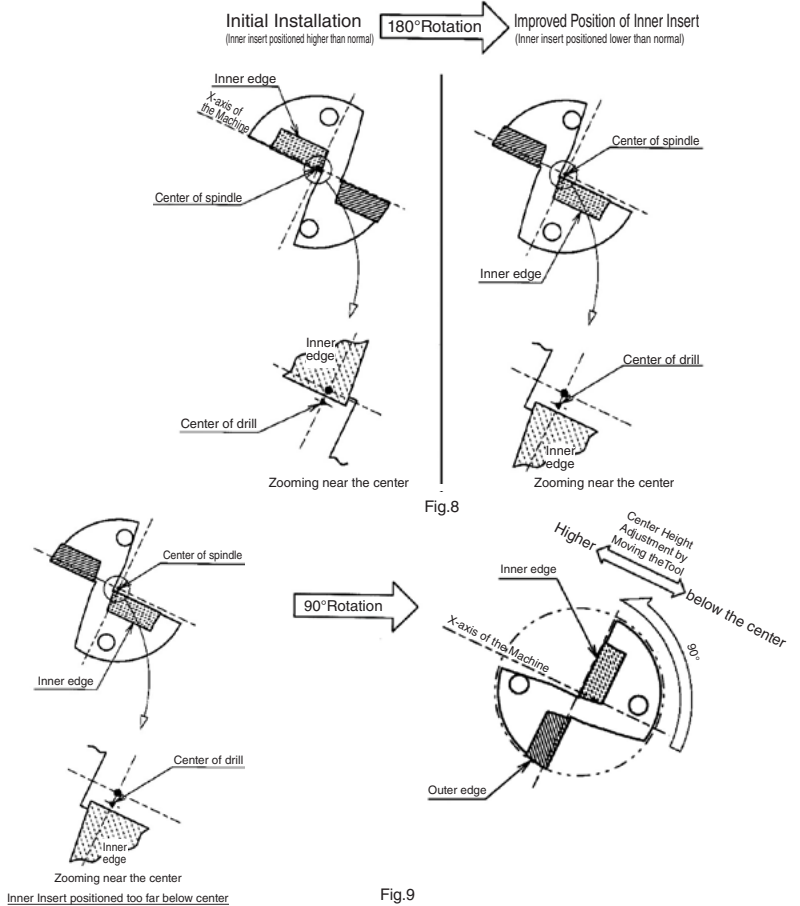

Fig.9
- (2) If the core diameter becomes too large after the above adjustment, install the drill by rotating 90° counter-clockwise as shown in Fig.9 (outer insert is positioned lower) and adjust the center height by moving the tool in the X-axis direction. (However, this makes it impossible to adjust the cutting diameter)